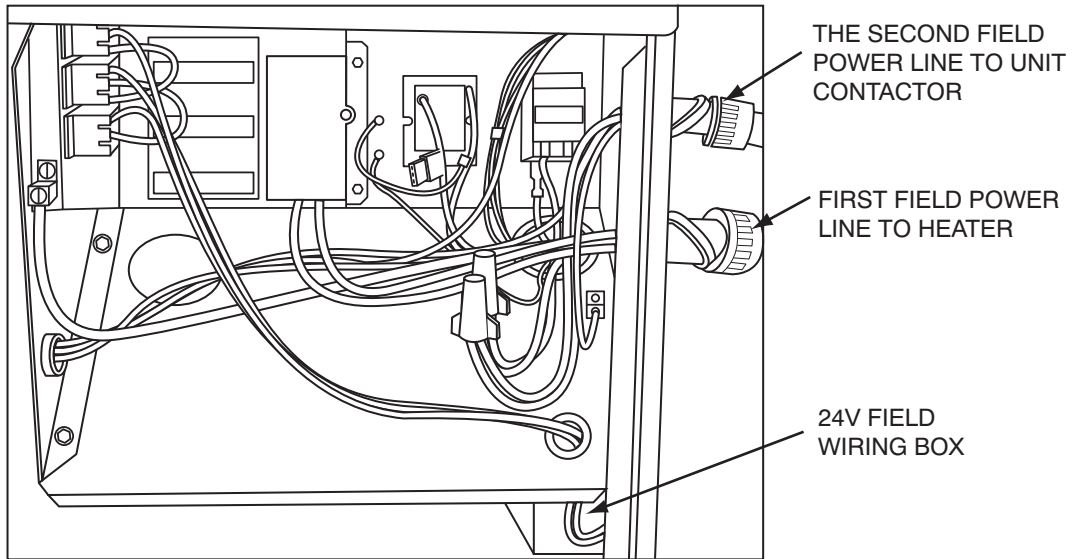
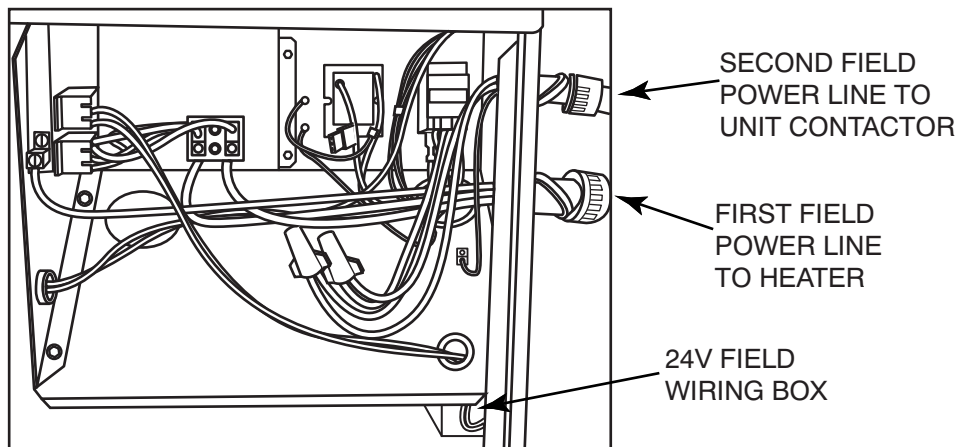

Fig. 12 - Dual Point Connections For Heater With Circuit Breaker
Fig. 13 - Dual Point Connections For Heaters Without Circuit Breakers
2. Connect low voltage wires as shown in unit schematic diagrams found on base unit installation instructions. These connections must be made in the 24v barrier section inside the unit panel (see Fig. 12 or Fig. 13).
3. Insert first field power line through the Electrical Panel bottom hole (see Fig. 12 or Fig. 13) and connect to electric heater as shown in their respective wiring diagram found on the heater accessory kit. Electrical heaters with factory installed circuit breakers must have their field lines connected to the breaker block lugs and electric heater without factory installed circuit breakers must have their field lines connected to the heater leads using wire nuts. Ground electrical equipment in the appropriate locations.
4. Insert second field power line through the Electrical Panel top hole (see Fig. 12 or Fig. 13) and connect to unit contactor black and yellow leads using wire nuts. Ground electrical equipment in the appropriate locations.